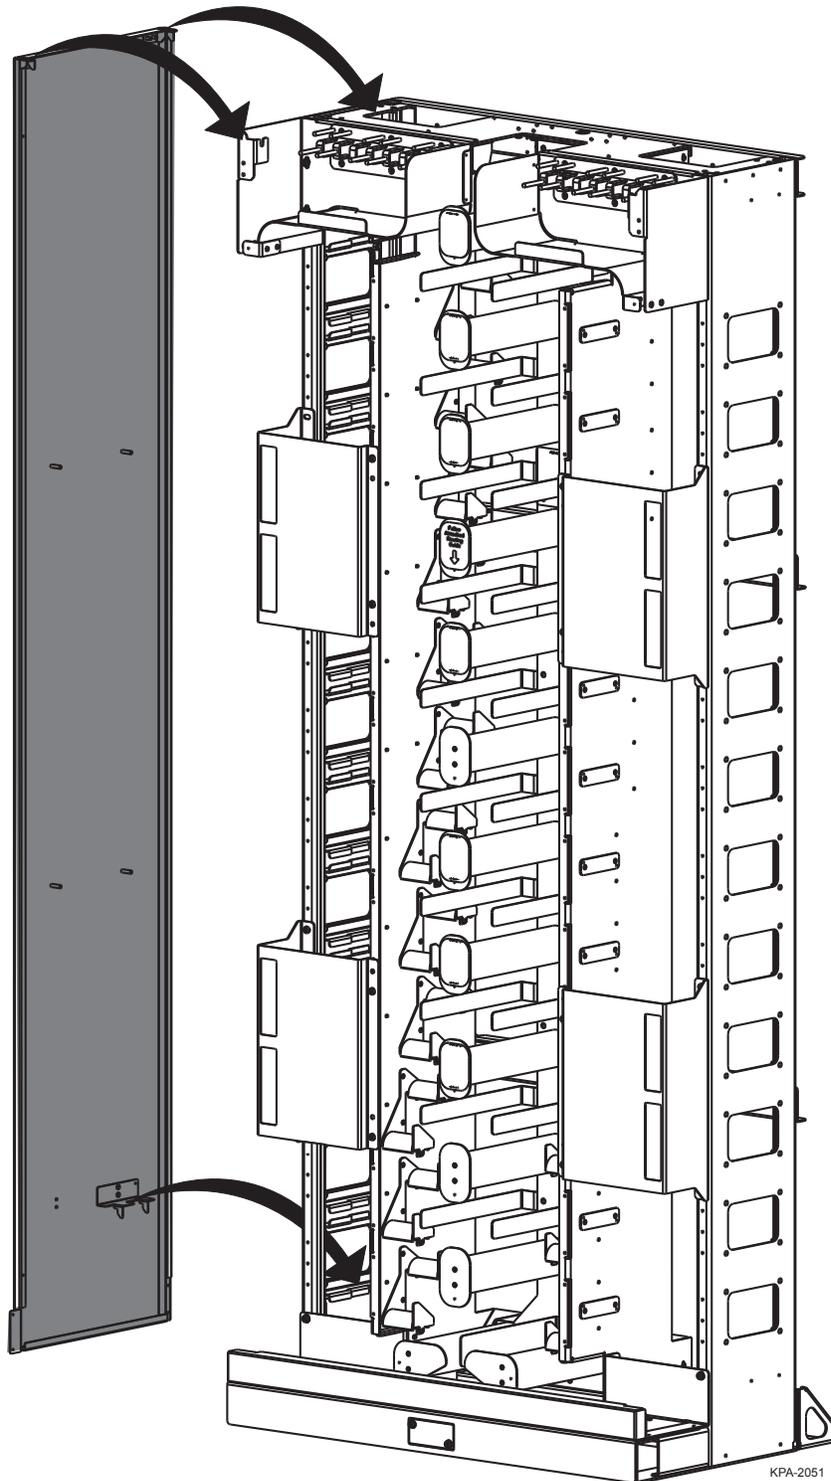

Figure 8 — Installing Endcap
- Step 1:** Hang the hooks at the top of the endcap over the lip at the top of the frame (Figure 8).